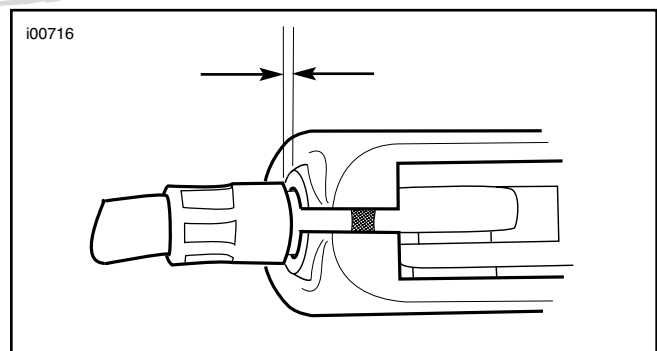

Figure 3. 1/16-1/8 inch (1.6-3.2 mm) Clutch Cable Free Play
6. See Figure 3. Turn cable adjuster away from jam nut until slack is eliminated at hand lever. Pull clutch cable ferrule away from clutch lever bracket to check free play. Turn cable adjuster as necessary to obtain 1/16 to 1/8 inch (1.6-3.2 mm) free play between end of cable ferrule and clutch lever bracket.